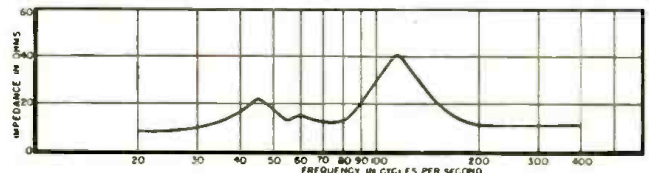
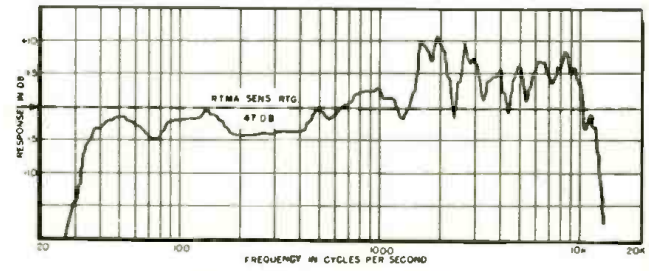

Fig. 1. Impedance characteristics.
Fig. 2. Frequency response.
If the "Aristocrat" is carefully constructed, and care is taken to effect a complete seal of the front baffle board to prevent air leaks from front to back, rather startling bass performance will be realized. Response range will be as shown in the curve (Fig. 2) revealing a response within 5 db of flat to about 30 cps. This operation is supported by evidence disclosed in the impedance characteristic (Fig. 1) denoting a satisfactory reactive component in the voice-coil system well into the first octave. The high impedance at 120 cps is fortunately not reflected adversely in the frequency response curve.
To make the idea of building a low-power transmitter attractive to the greatest number of members, low cost was placed at the top of the list of design requirements. The final circuit chosen, after a painstaking, penny-conscious investigation of every conceivable combination of available parts, is shown in Fig. 2. With a little shopping around in the surplus ads, all the parts including tube, crystal, power supply, and key can be purchased for less than a five-dollar bill. To a man with a good junk box and the standard "odds and ends" of surplus, this can nearly be a "no-cost" transmitter.
Fig. 1. Alternate ways of feeding power to the antenna (see Fig. 2). (A) "Pi" network for random-length wires or a coaxial feeder. (B) Simpler "L" coupler, somewhat less efficient but still useful (see text).